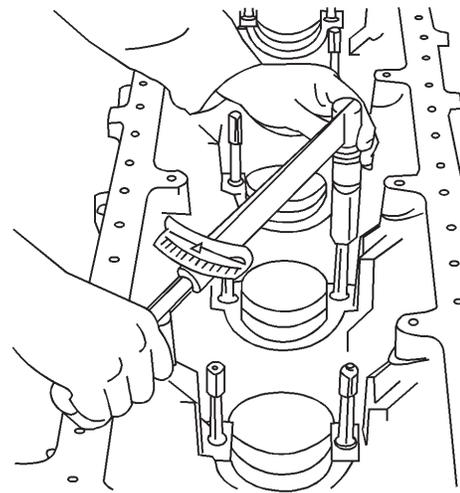

Figure 3-11.—Torque wrench in use, tightening main bearing stud of an engine.
**TORQUE WRENCH.** Torque is twisting, or turning, effort. When the lid on a jar is loosened, a twisting force, or torque, is applied to it. You apply torque to a wrench when you tighten or loosen a nut. Torque is measured in pound-feet (not to be confused with work, which is measured in foot-pounds). For instance, suppose you use a wrench to tighten a nut on a stud. If the handle of the wrench is 1-foot long and you apply a 10-pound force to its end, 10 pound-foot of torque is applied to the nut. An illustration of a torque wrench in use is shown in figure 3-11.